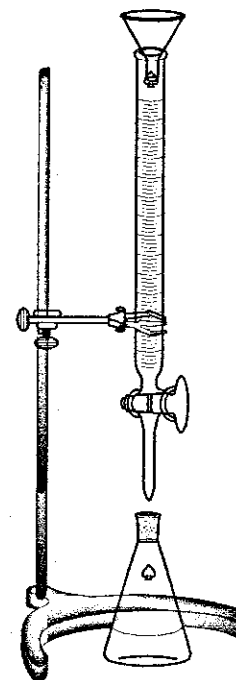

Fig. 1/2007. A typical titration setup.
- Titrate the obtained iodine solution with the standard sodium thiosulfate solution to the pale-yellow coloration. Then add 3 drops of the starch solution and continue titrating until the blue coloration disappears (fig. 1/2007).